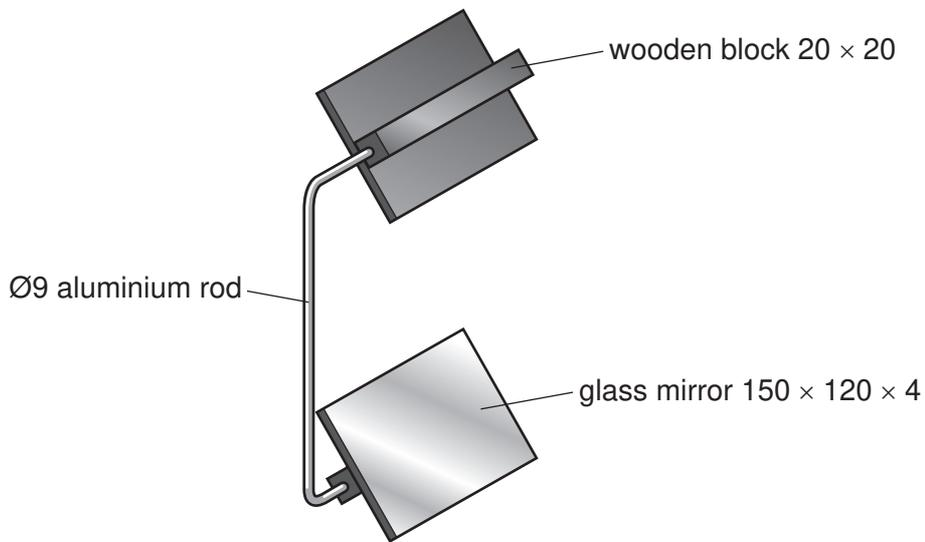

Fig. 11
- (e) Fig. 11 shows a design for an open frame periscope. The glass mirrors are glued to the wooden blocks. The aluminium rod is bent to shape and glued into the wooden blocks.